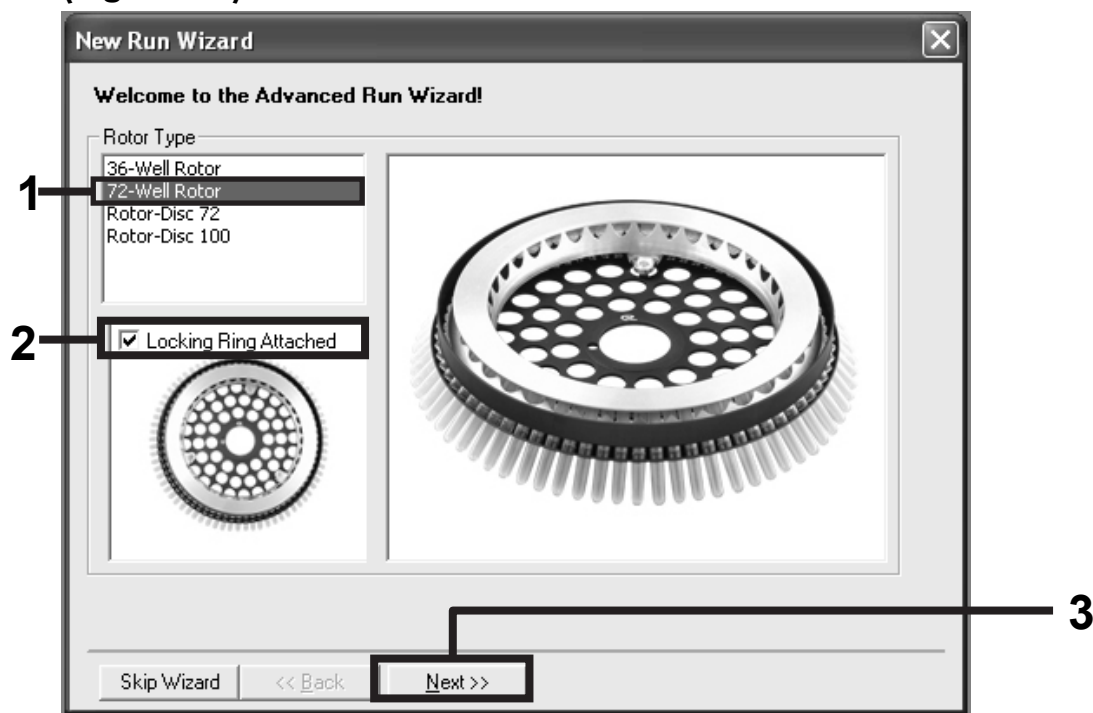

Figure 15. The “New Run Wizard” dialog box.
Setting the general assay parameters	Figures 15–17
4. Select **72-Well Rotor** as the rotor type. Confirm that the locking ring is attached and check the “**Locking Ring Attached**” box. Click “**Next**” (Figure 15).